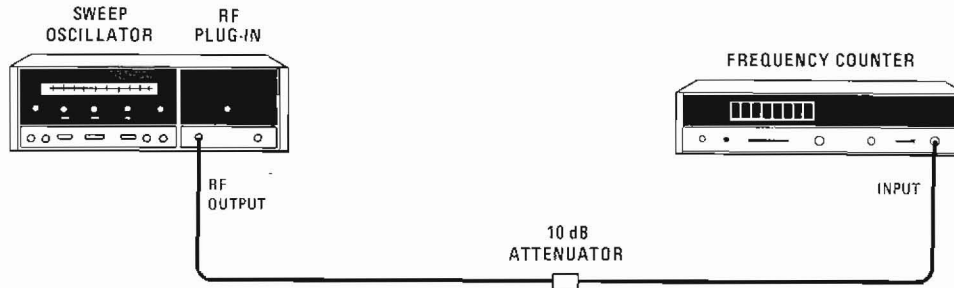

Figure 4-1. Frequency Range and Accuracy Test Setup
- a. Connect equipment as shown in Figure 4-1. Connect frequency counter through a 10 dB attenuator to the 86220A RF OUTPUT connector.